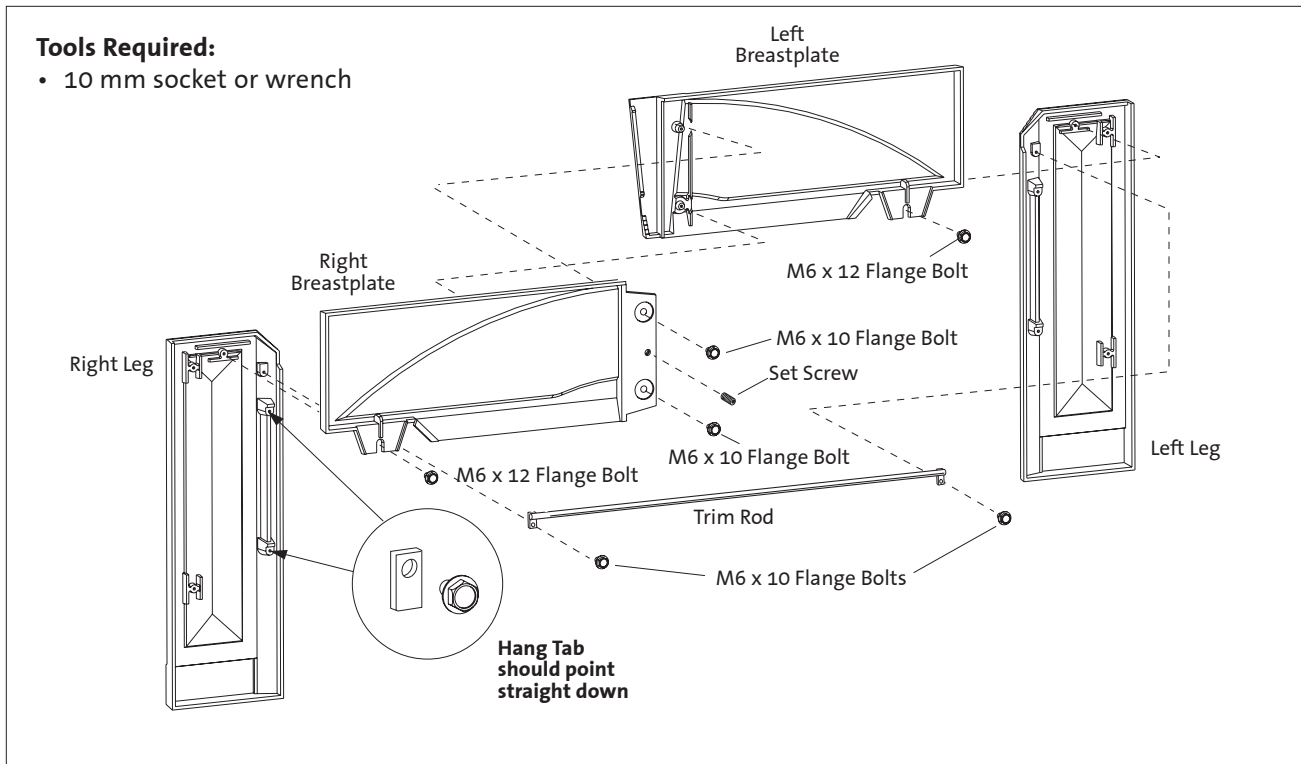

Figure 12. Surround Panel Assembly
- 1. Layout the parts.** Place the castings face down on a protective surface such as carpeting, blankets or a sheet of cardboard. See fig. 12, page 12.
- 3. Attach the Leg plates.** The Legs must be oriented with the Hang Tabs on the inside edges as shown in fig. 12. Use the two remaining M6x 12 hex head flange bolts to attach the Legs to the Breastplate assembly. See Fig. 12.